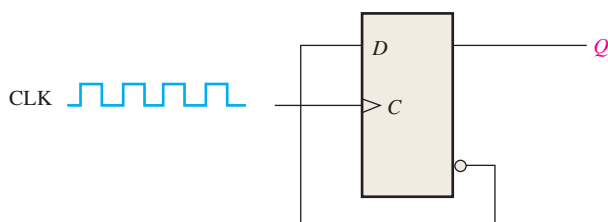

FIGURE 7–90
26. For the circuit in Figure 7–89, develop a timing diagram for eight clock pulses, showing the Q_A and Q_B outputs in relation to the clock.